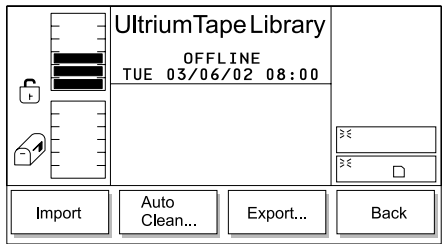

Figure 163. I/O Station Submenu
2. Press the button below the **I/O Station** softkey. The I/O Station Submenu displays (see Figure 163 on page 136).